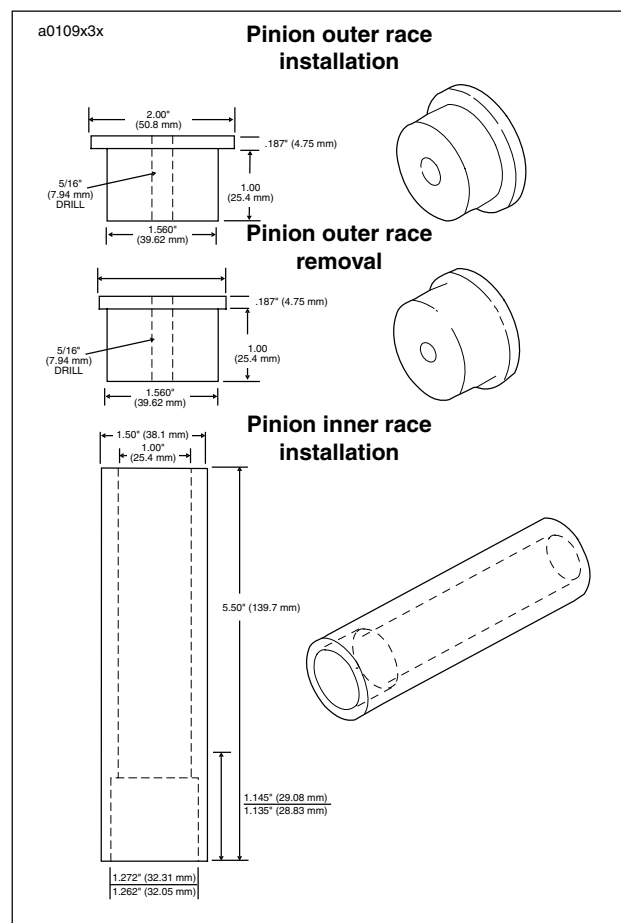
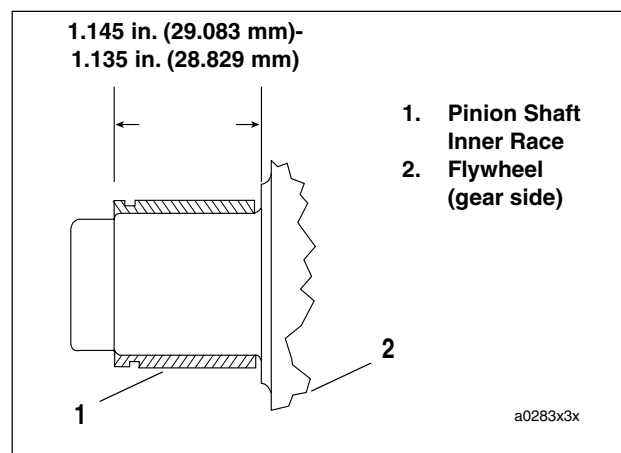

Figure 3-124. Pinion Shaft Bearing Tools
Figure 3-125. Inner Race Location
See Figure 3-124. Dimensions are shown for fabrication of tools used in pressing the outer race into or out of crankcase.
7. See Figure 3-125. Pull inner race from pinion shaft using WEDGE ATTACHMENT for CLAW PULLER (Part No. HD-95637-46A) with BEARING RACE REMOVER/INSTALLER (Part No. HD-34902B) and END CAP (Part No. HD-34902-7). Apply heat to race to aid removal.
8. See Figure 3-125. Press **new** inner race on pinion shaft as shown. The **new** inner race must be ground by a competent machinist to OD dimension range for the finished lapped ID of the outer race. See Table 3-15. The finished inner race must meet these specifications. For necessary dimensions for constructing a press-on tool see Figure 3-124. When the tool bottoms against the flywheel, correct inner race location is automatically established.